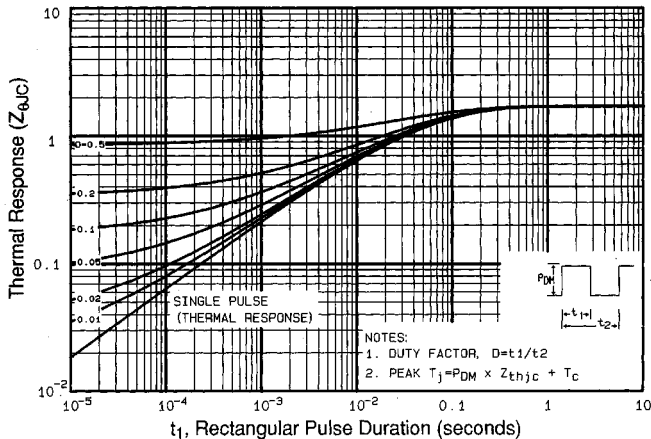

Fig 11. Maximum Effective Transient Thermal Impedance, Junction-to-Case
① Repetitive rating; pulse width limited by max. junction temperature (See Figure 11)
③ $I_{SD} \leq 14A$, $di/dt \leq 140A/\mu s$, $V_{DD} \leq V_{(BR)DSS}$, $T_J \leq 175^\circ\text{C}$
② $V_{DD}=25V$, starting $T_J=25^\circ\text{C}$, $L=528\mu H$